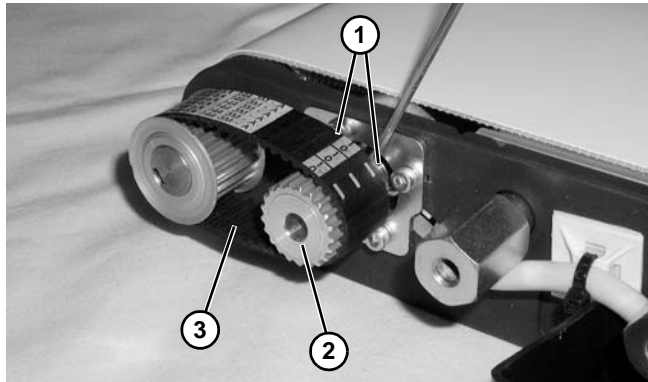

Figure 73
6. Loosen two set screws (**Figure 73, item 1**) on drive pulley (**Figure 73, item 2**). Slide drive pulley outward off of gearmotor shaft and remove timing belt (**Figure 73, item 3**).